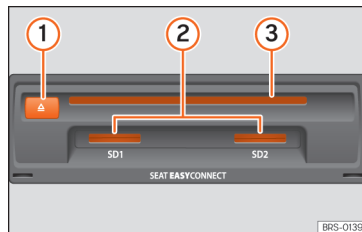

Fig. 213 Slots for data storage devices in the glove compartment.
- Push the CD or DVD into the DVD slot »» Fig. 213 ③ to the point where it is drawn in automatically.
Insert the compatible memory card, bevelled edge first and with the label face up (contacts face down), into slot »» Fig. 213 ② or »» Fig. 188 ⑨, until properly inserted.